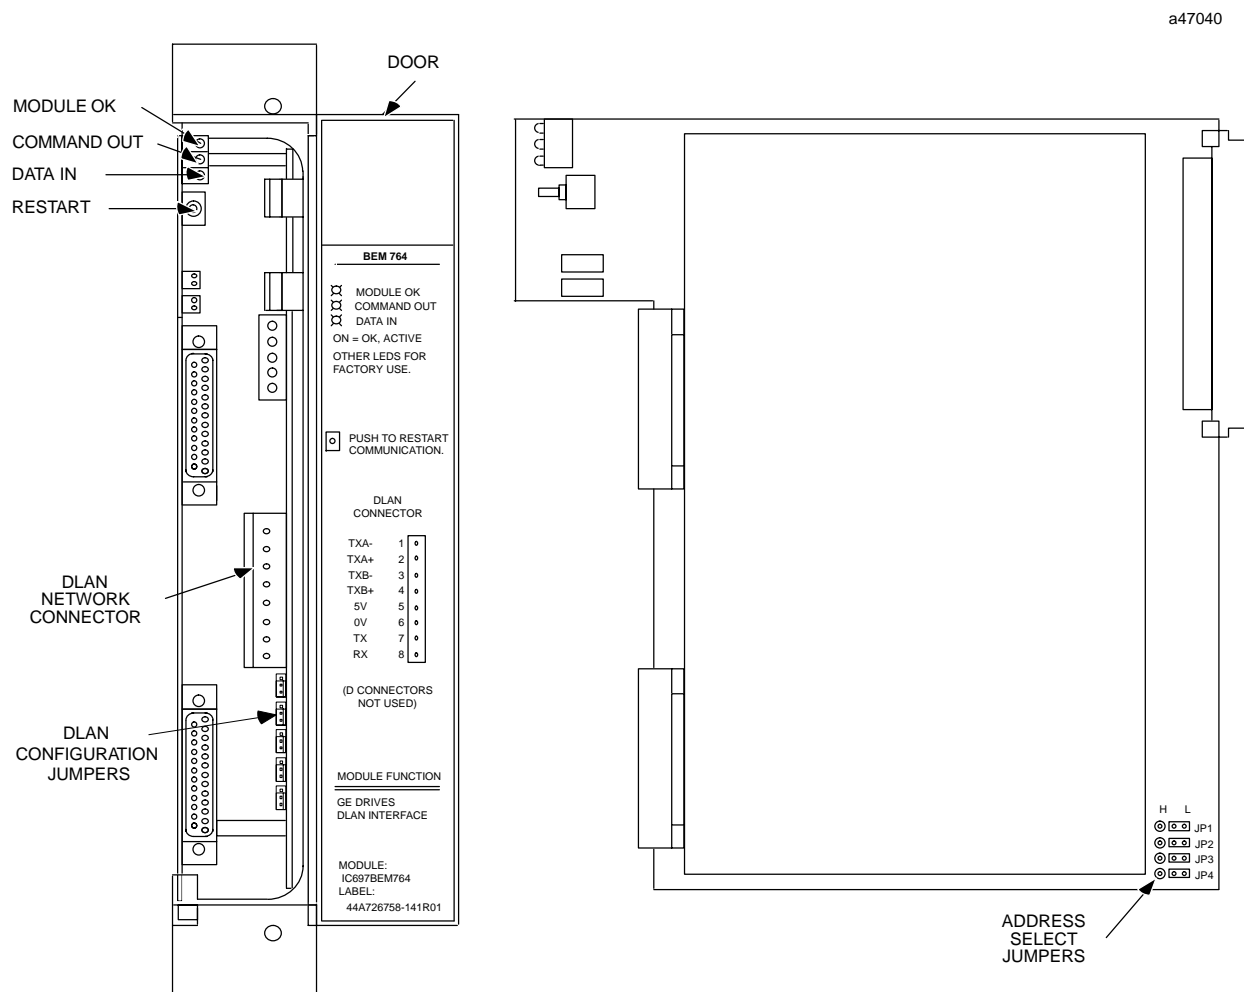
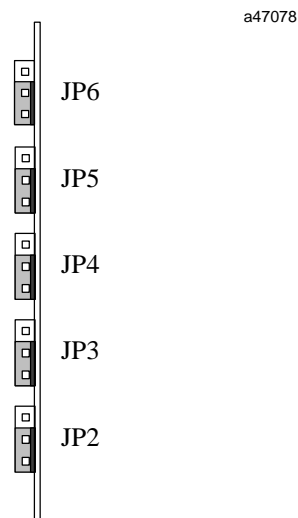

Figure 1-1. VME DLAN/DLAN+ Interface Module
Figure 2-3. Detail of DLAN Configuration Jumpers From Figure 1-1.
This version (GFK-1044A) of the VME DLAN/DLAN+ Interface Module User's Manual has changes to two chapters. In Chapter 1, Figure 1-1 has been revised to show the DLAN configuration jumpers. Section 2 of Chapter 2 now describes DLAN jumper configuration. Previously numbered Section 2 is now Section 3..
Before a VME DLAN module is installed in a rack, its address in VME short non-privileged address space (AM code 29 hexadecimal) must be selected by setting four jumpers. When you hold the module as shown in Figure 1-1, with the component side toward you and the LED indicators in the upper left corner, the four address select jumpers are near the lower right corner. They are the only jumpers on the module.
7. Mount the DLAN/DLAN+ network connection block to the VME rack where the DLAN Interface module is installed. Connect the ground wire from the connection block securely to one of the ground screws on the VME rack. Connect the cable from the connection block to the DLAN Interface module by mating its connector with the DLAN NETWORK CONNECTOR shown in Figure 1-1. Finally, connect the network cable or cables to the connection block. If the DLAN Interface module is at one end of the network cable, the appropriate network terminator must be connected at the connection block.
Figure 2-3 is an enlarged view of the DLAN configuration jumpers shown in Figure 1-1. Jumper JP6 is nearest the DLAN network connector. The positions of these jumpers configure the DLAN module connections to a DLAN network.